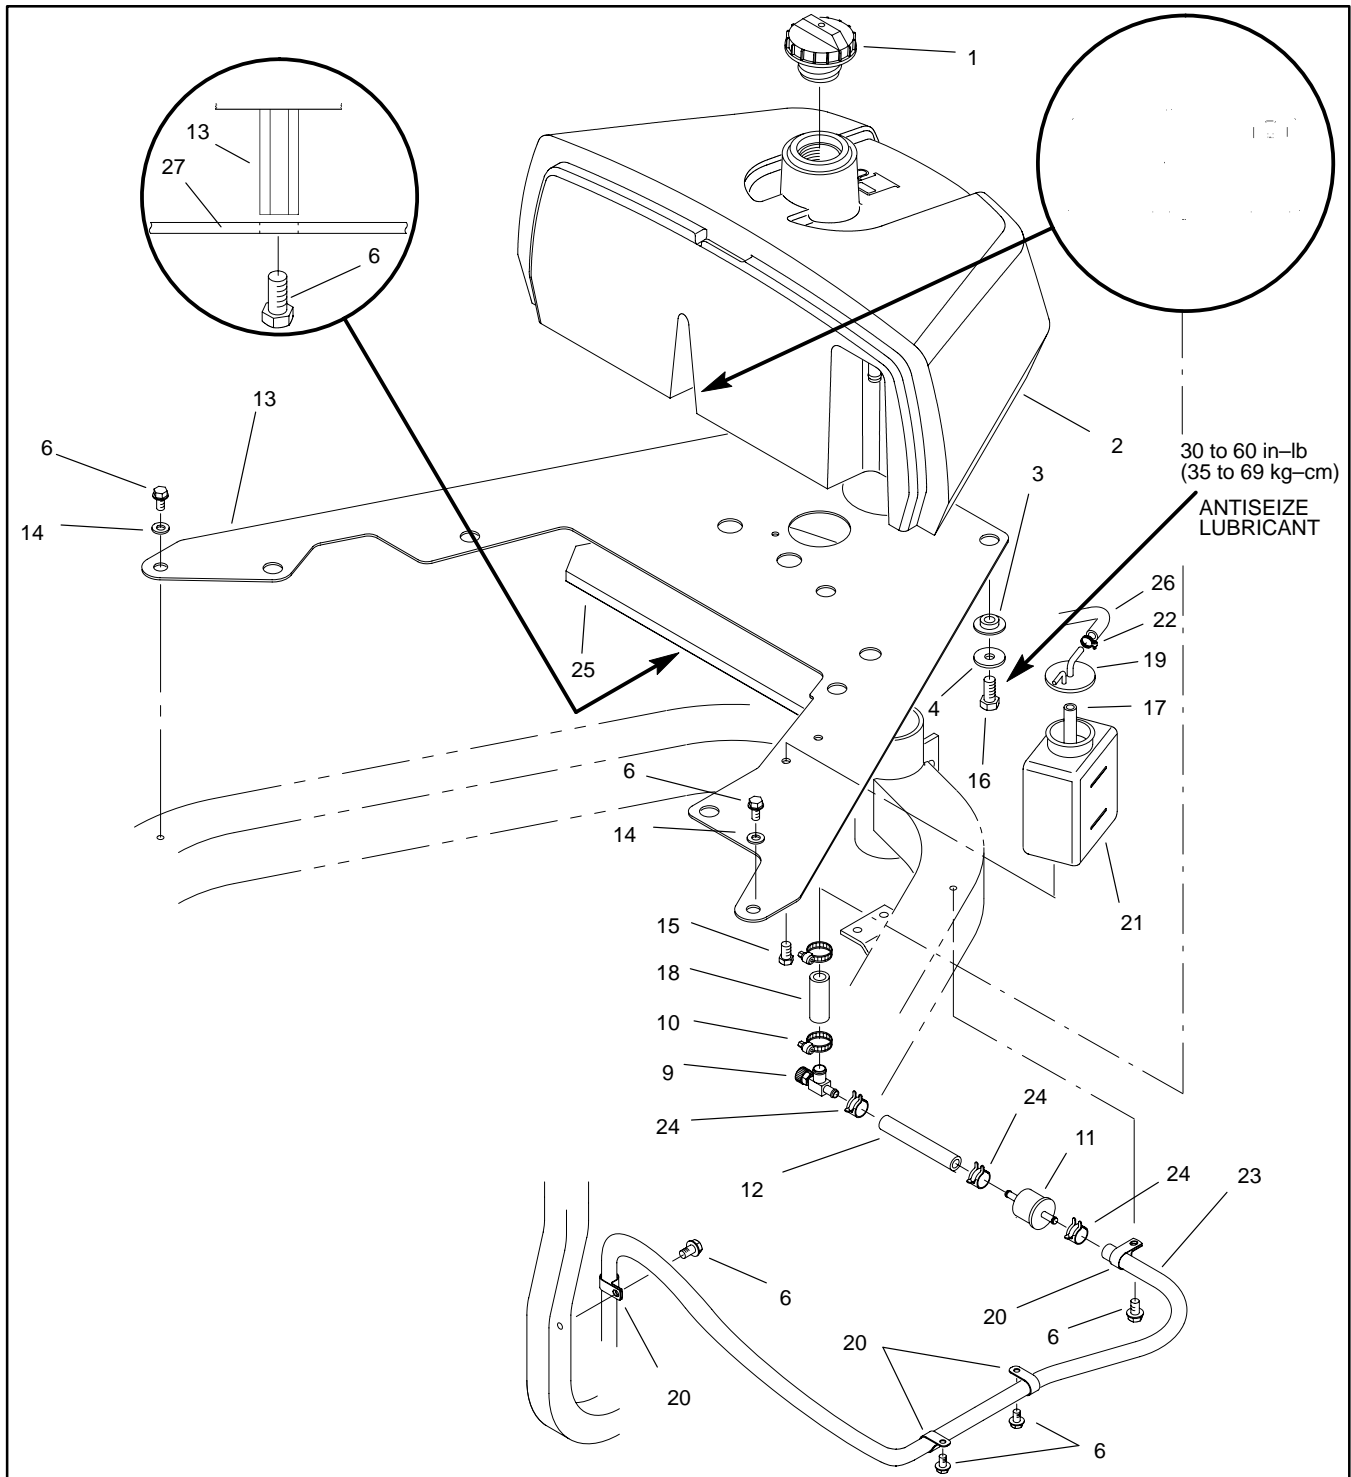

Figure 17
## Fuel Tank Removal (Fig. 17)
## Fuel Tank installation (Fig. 17)
- A. Remove three cap screws (6) and two flat washers (14) securing tank mounting plate (13) to the support bracket (27) and frame (Fig. 17).